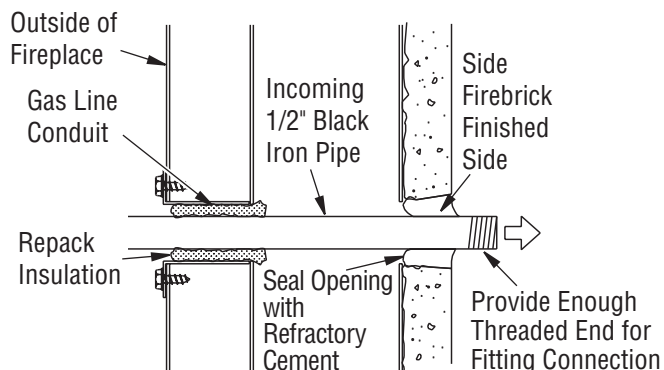

Figure 23 - Gas Line Installation
3. Run a 1/2" black iron gas line into fireplace through rear of gas line conduit sleeve (if using a raised platform, add height). Provide sufficient gas line into fireplace chamber for fitting connection (see Figure 23, page 14).